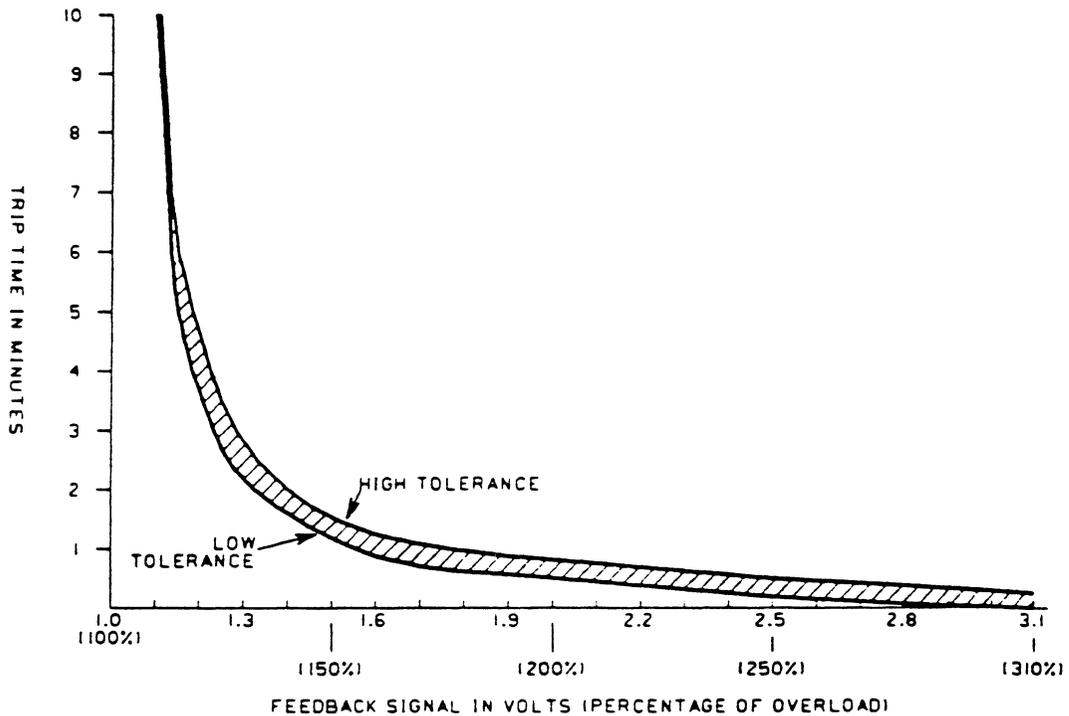

Figure 1-3. Electronic Overload Trip Curve
This overload will allow 150% of motor rating for over one (1) minute and 200% for over ten (10) seconds. See Figure 1-3 for actual trip time vs. percent overload. Tripping of this overload will cause the OVERLOAD lamp to illuminate and the Run circuit to de-energize; the drive will come to a stop. The drive cannot be restarted until the RESET push button is pressed. If automatic reset is desired (motor can be restarted approximately one (1) minute after shutdown), switch 13SS (4) must be set to the ON position. NOTE: If drive shutdown is NOT desired, clip open jumper J11 on the Regulator PCB.